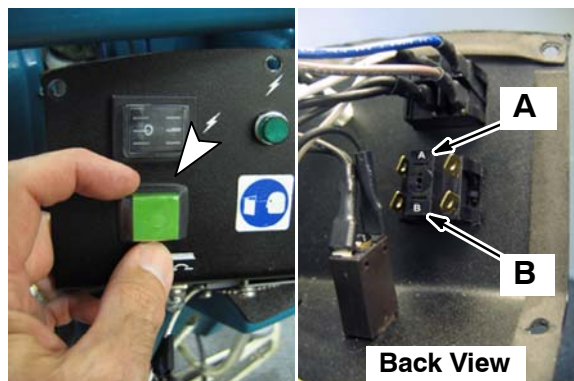

Fig. 3
4. Install new brush release switch (1034065) into panel, oriented as shown on back view (Fig. 3).